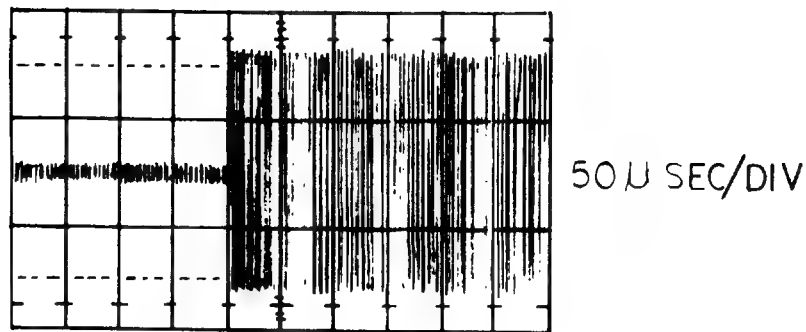

Figure 2-3. Index Pulse and Data Burst
- g. Observe time interval between sync and data burst. (Figure 2-3.)